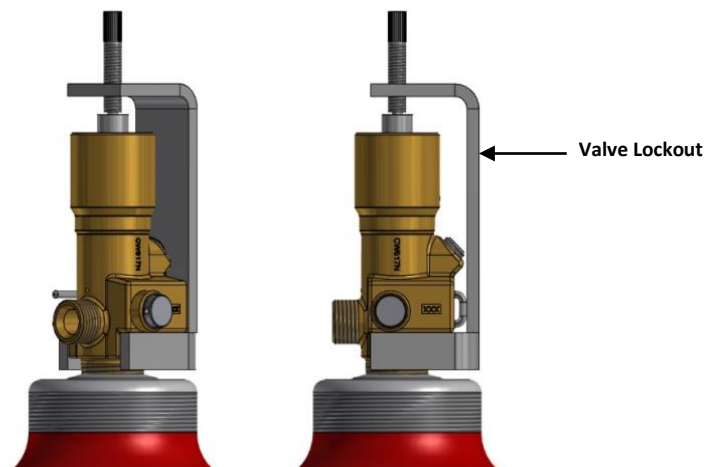

Figure 4.2.2-1 IG-100 Container with Valve Lockout Assembly Installed
Step 7: Fit the Valve Lockout Assembly (P/N IG71-235; Figure 4.2.2-1) on to the valve prior to removal of the filling hose.